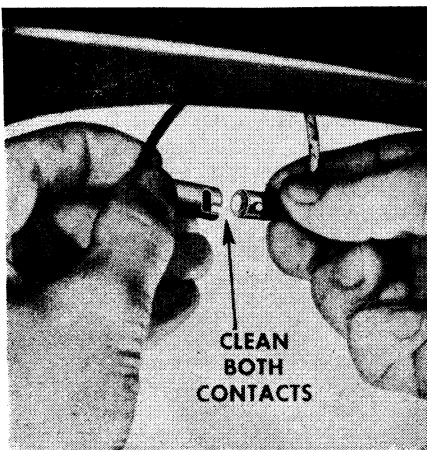

Fig. 3 AC fuel gauge connection
2. Follow wire from tank unit to "bayonet connection" or the terminal junction block. Disconnect the wire at this point and clean wire contacts by scraping with a knife or sandpaper, Fig. 3.
5. If the pointer does move correctly, the trouble is in the tank unit or the wire which runs from it to the "bayonet connection", Fig. 3, or terminal junction block. If the connections are all clean and tight, and there are no breaks or chafes in the wire from the bayonet connection to the tank, then a new AC tank unit must be installed.